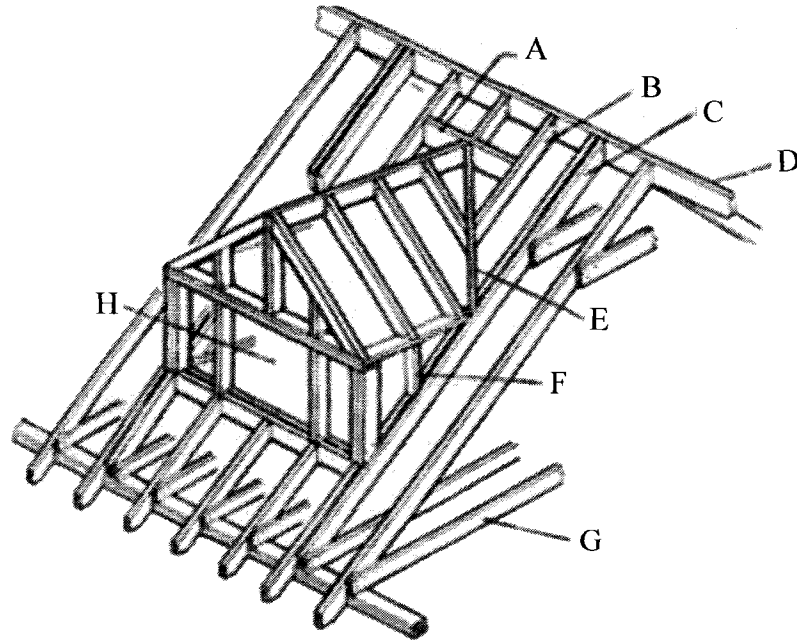

Figure 6
- (c) (i) Figure 6 shows a pictorial drawing of a roof rafter detail of a building. Identify the parts labelled A through H using the list below. [4]